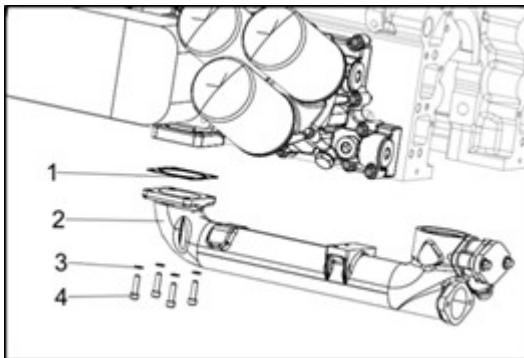

Figure 163
7. Install the water inlet pipe, fit the gasket (Fig 163, item 1) firstly, tighten the fixed bolts (Fig 163, item 4) with the washer (Fig 163, item 3). Torque bolts to 37 N·m.